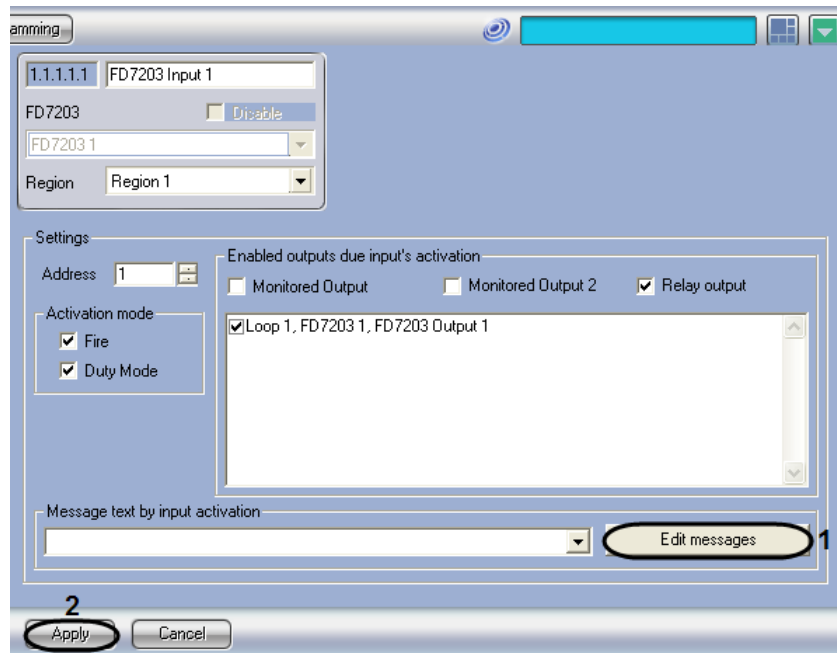

Fig. 3.6—4 How to open the Edit Messages window
1. Go to the settings panel of the “FD7203 input” object (Fig. 3.6—4).
2. Click the “Edit messages” button (see Fig. 3.6—4, 1).